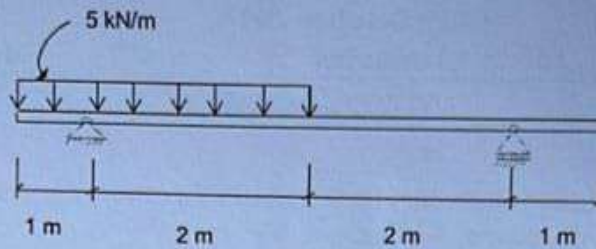

Figure 3
3. A hollow circular shaft of 100 mm outside diameter and 70 mm inside diameter is carrying a uniformly distributed load 5 kN/m as shown in figure 3. Draw its bending moment diagram and find the point of maximum bending stress. Plot the bending stress distribution across cross section at the point of maximum bending moment.